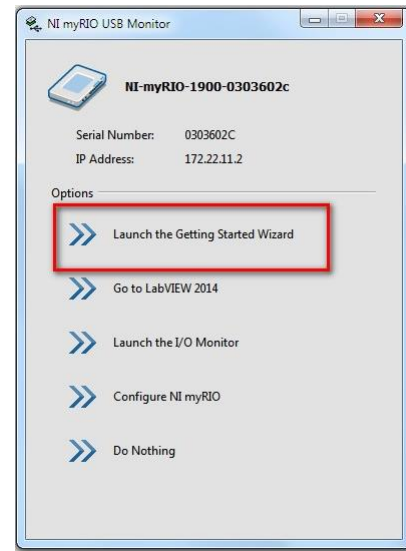

Figure 7 NI myRIO USB monitor
5. The NI myRIO USB Monitor appears (Figure 7)